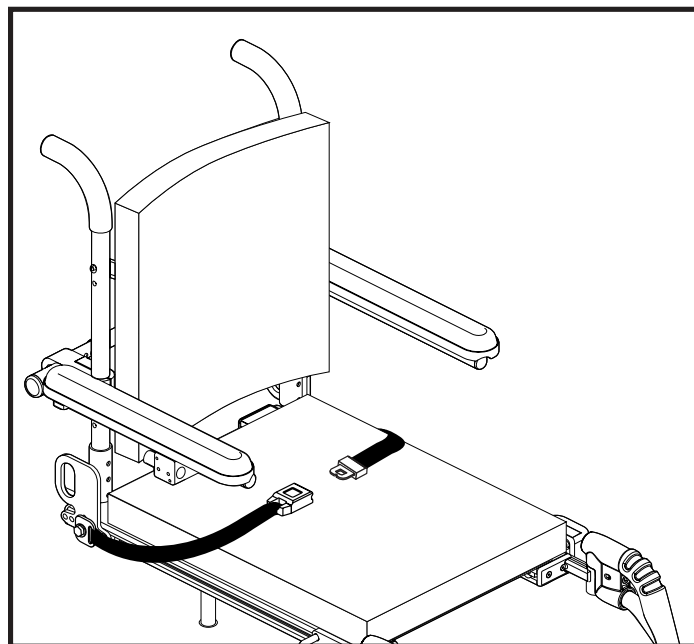

Figure 13. Positioning Belt Adjustment
Your power chair may be equipped with a positioning belt that can be adjusted for operator comfort. See figure 13. The positioning belt is designed to support the operator so that he/she does not slide down or forward in the seat. The positioning belt is not designed for use as a restraining device.
1. Once seated, insert the metal tab on one side of the belt into the plastic housing on the opposite side until you hear a click. See figure 13.